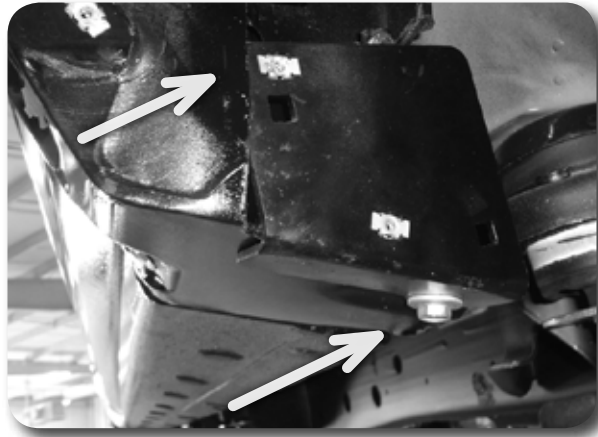

Figure 7
11. Remove the bottom bolt on the fender and install the new fender trim brackets to the vehicle attaching it with the bottom bolt **Figure 7**. Position the bracket so that it angles towards the outer cut edge and tighten the bolt. The upper corner of the bracket will tuck in behind the untrimmed part of the fender. Make sure the screw clip is showing and not tucked behind the inner fender. If the screw clip is hidden, additional trimming may be required.